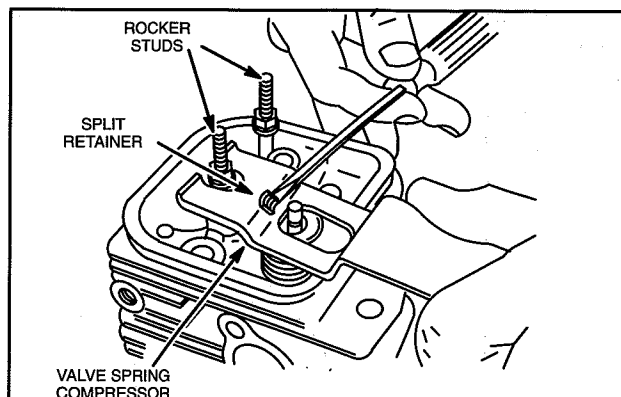

Fig. 8 – Removing Retainers
2. Thread rocker arm support screw into cylinder head a few turns and compress spring with valve spring compressor, Tool #19347, Fig. 8. Remove the following: